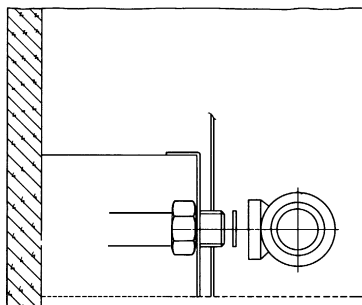

Fig. 17
- 5.5 Screw the pressure relief valve adaptor provided, through the jig bracket into the valve, using the remaining washer (fig. 17).